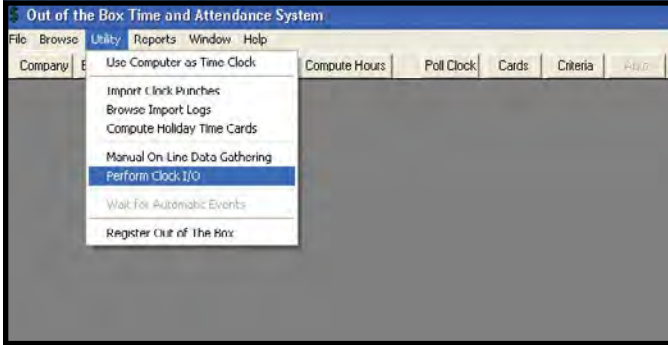

Figure 12. Out-of-the-Box™, Perform Clock I/O
- XII. The communication settings must then be checked via the “Perform Clock I/O” command. Begin by clicking “Utility” > “Perform Clock I/O” (see Figure 12).